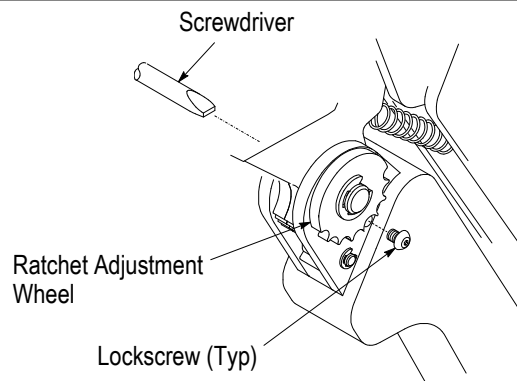

Figure 7
**6. RATCHET (CRIMP HEIGHT) ADJUSTMENT** (Figure 7)